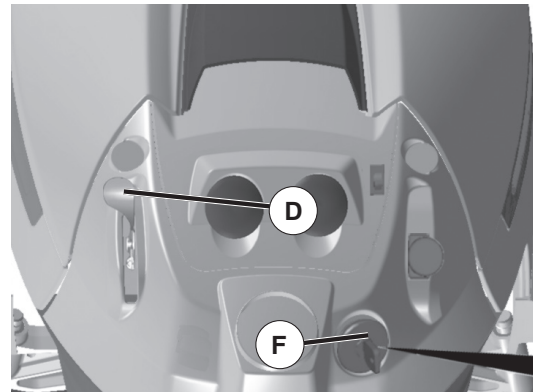

FIG. 6
TO USE THROTTLE CONTROL (D) (See Fig. 6)